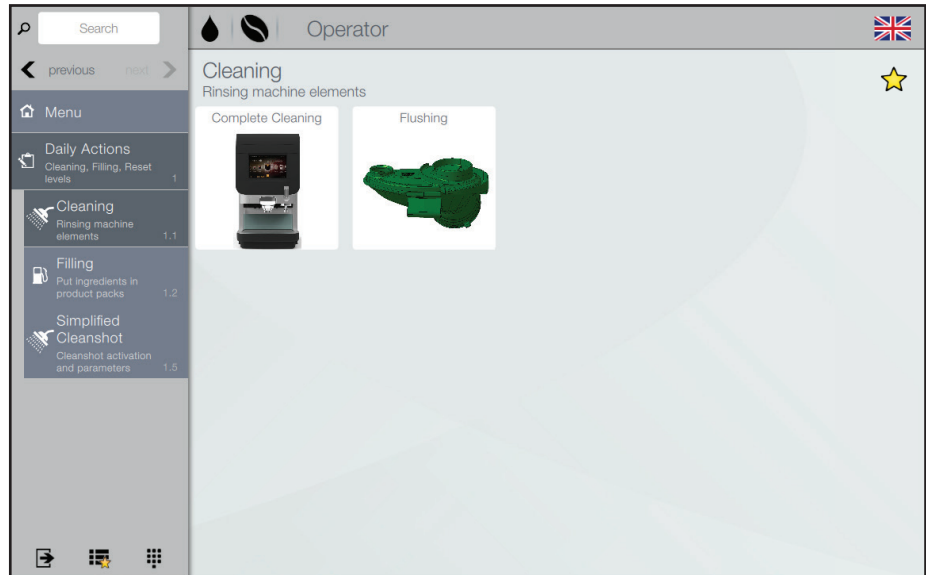

Fig. 6.6 - Cleaning
- Tap on menu items 1 > 1.1
- Follow the instructions in sections “Flushing” and “Complete Cleaning”, see chapter “Cleaning” (fig. 6.6).